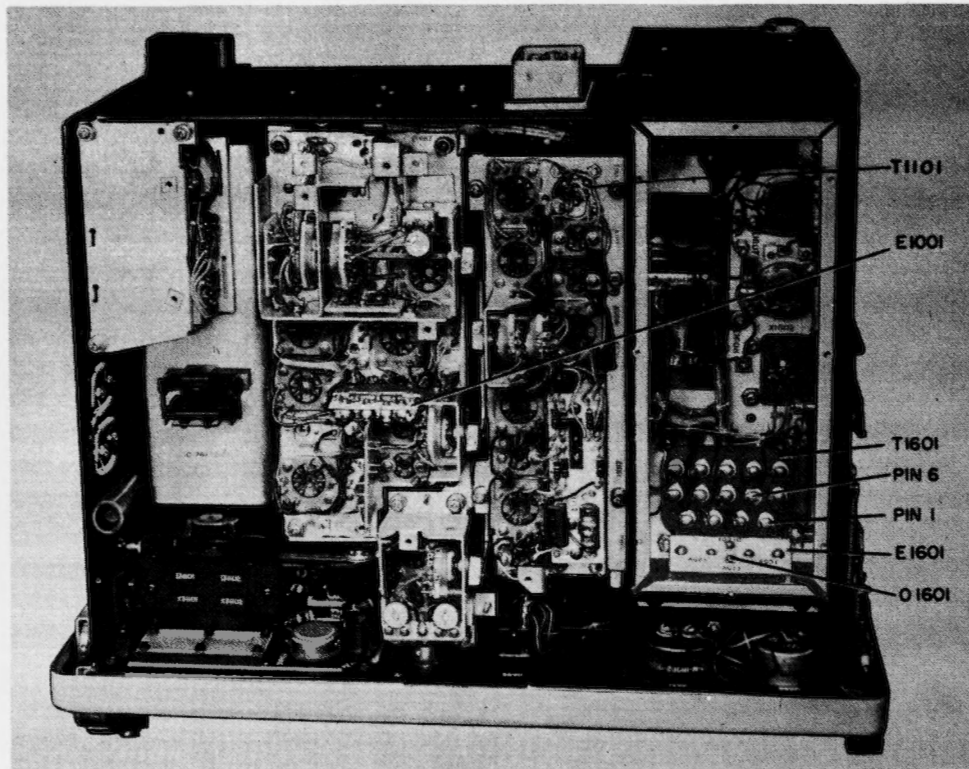

Figure 3-10. Receiver Initial Adjustment Component Locations, Top View
(2) PRIMARY TAP SETTINGS. - Set the link O1601 on board E1601 in the power supply assembly to most nearly correspond to the anticipated line voltage. Link board E1601 is accessible from the top of the chassis after the cover plate on the power supply is removed. See figure 3-10. Taps on E1601 are labeled 105, 115, and 125. If the receiver is to be operated from a 400-cycle supply, unsolder and remove the lead connected to pin 1 of T1601 and connect it to pin 6.
(3) OUTPUT TRANSFORMER TAP SETTINGS. - Refer to the particular installation plan in use, and check whether it calls for a grounded or ungrounded secondary tap (pin 6) of the output transformer T1101. Then check T1101 of the receiver to see if it conforms with the installation plan. If it does not conform with the installation plan, remove or insert the grounding wire as necessary to meet the requirements of the installation plan (the ground wire of T1101, pin 6, should be connected between pins 6 and 4 of T1101). See figure 3-10 for location of T1101.